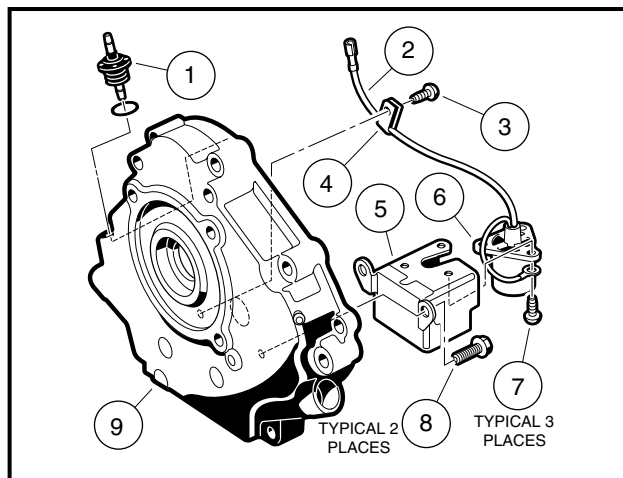

Figure 13-4 Oil Level Sensor
2. Disconnect the oil level sensor wire (2) from the cord connection (1) (**Figure 13-4, Page 13-5**).
3. Remove the two mounting screws (8) from inside of the crankcase cover and remove the oil level sensor and bracket.
1. If the oil level sensor was removed from the bracket, install sensor (6) into bracket (5) and secure with three screws (7) and tighten to 17 in-lb (1.9 N·m) (**Figure 13-4, Page 13-5**).
2. Position the sensor and bracket on inside of crankcase and install two mounting screws (8).
3. Connect sensor wire (2) to cord connector (1) (**Figure 13-4, Page 13-5**).
4. Install screw (3) through wire clamp and into crankcase cover. Tighten to 30 in-lb (3.4 N·m).